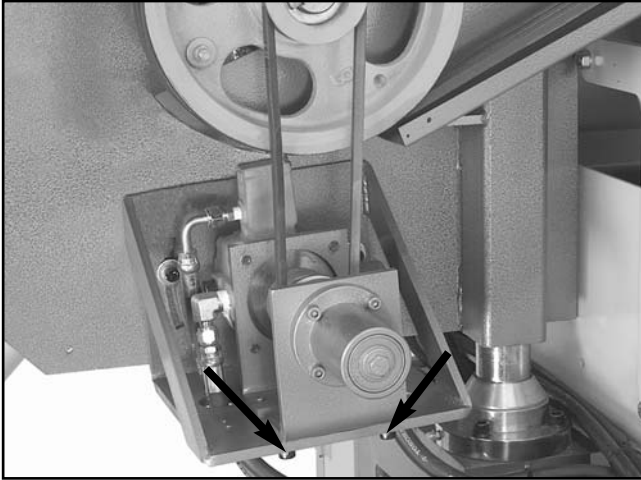

Figure 39. Cap screws securing pulley bracket.
5. Remove the two cap screws shown in **Figure 39** that secure the pulley bracket to the pump seat.